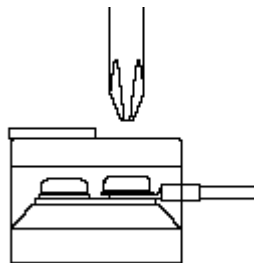

FIGURE 2-18
- Refer to **Figure 2-18**. Reinstall the screw into the terminal board. Make sure that the Phillips driver is inserted perpendicular to the screw head.